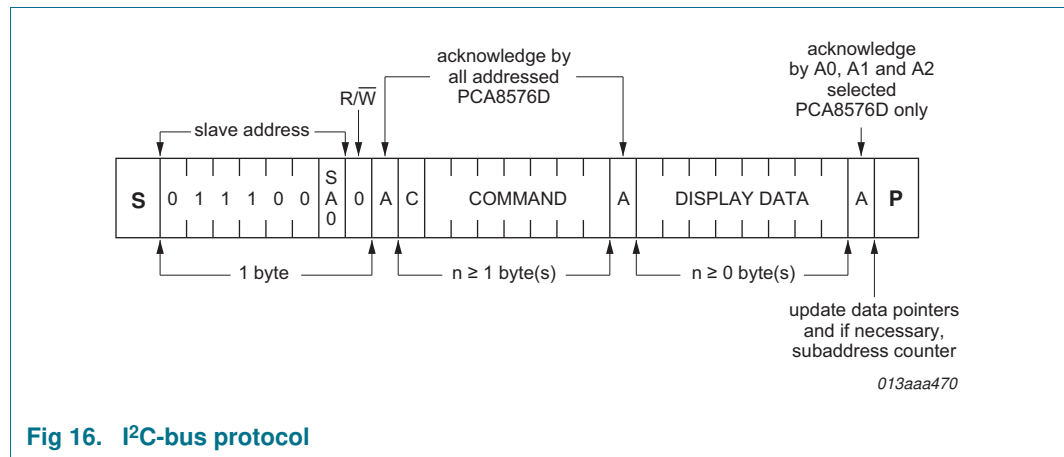

Fig 16. I2C-bus protocol
The I2C-bus protocol is shown in Figure 16. The sequence is initiated with a START condition (S) from the I2C-bus master which is followed by one of two possible PCA8576D slave addresses available. All PCA8576D whose SA0 inputs correspond to bit 0 of the slave address respond by asserting an acknowledge in parallel. This I2C-bus transfer is ignored by all PCA8576D whose SA0 inputs are set to the alternative level.